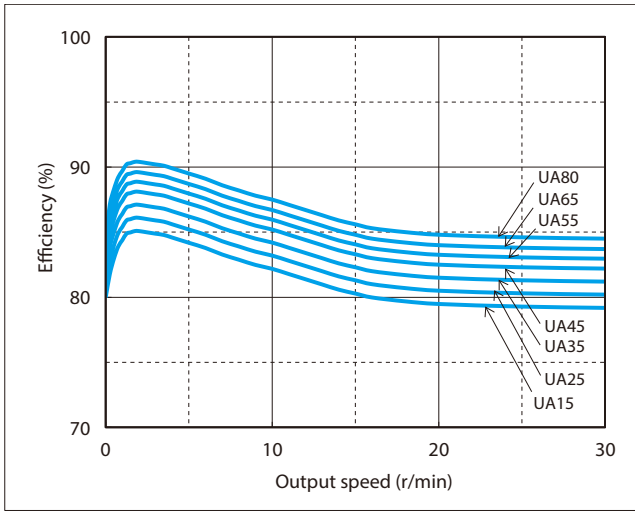
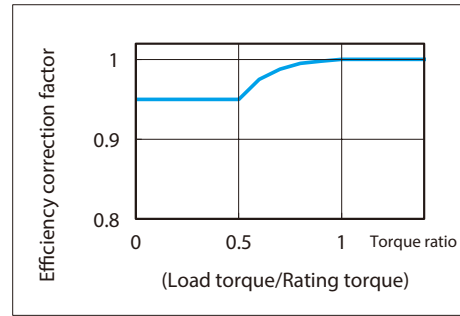

Figure 11. Efficiency curve
Figure 12. Efficiency correction curve
- Figure 11 indicates the average value of the efficiency for the output speed after running-in while the rating load torque and grease temperature are stable.
- If the load torque is not the rated torque, correct the efficiency by the efficiency correction curve of Figure 12.
Corrected efficiency = Efficiency value (Figure 11) × Efficiency correction factor (Figure 12).....(Formula 6)
- Note) 1. If the load torque is less than the rated torque, the efficiency value will be smaller. Calculate the efficiency correction factor from Figure 12.